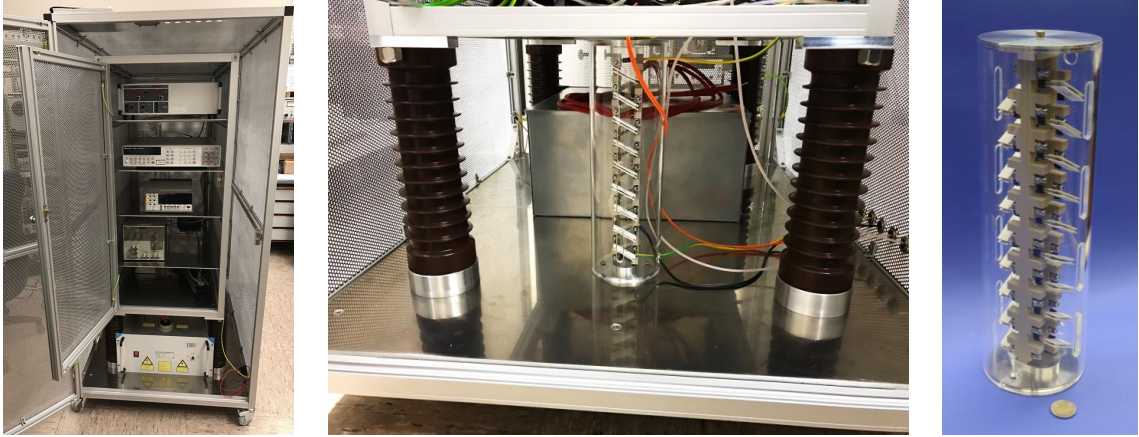

Figure 7: Mobile absolute calibration setup.
**Absolute high voltage calibration** Since HV dividers usually show a voltage dependent scale factor, a calibration of the scale factors has to be performed with voltages up to 35 kV. The University of Münster developed a suitable calibration method that has already been performed with the G35 divider (see subsection 4). This calibration should only be conducted by the HV-group of the Münster University because a dedicated calibration setup (figure 7) has to be transported to GSI to be able to conduct the measurements. For further information please refer to the publication of the method under [3].